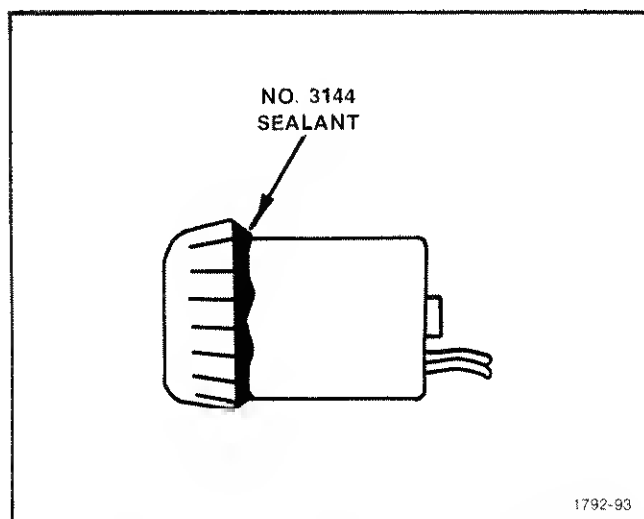

Fig. 5-15. Application of sealant to Battery Meter.
16. Install Battery Meter (see Fig. 5-15 and 5-16)
1. Apply a thin bead of No. 3144 sealant to the junction of the bezel and meter canister (see Fig. 5-15).